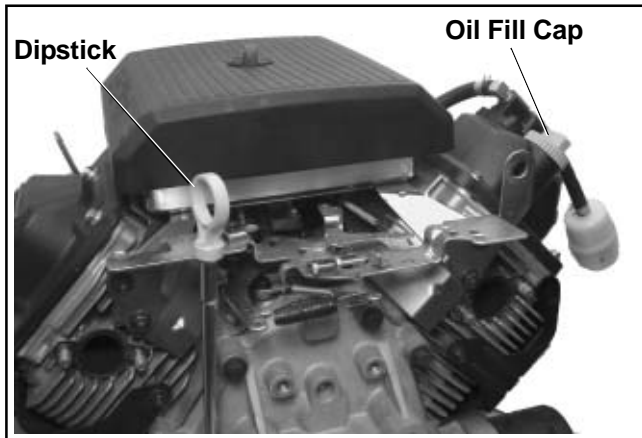

Figure 6-2. Location of Oil Fill Cap and Dipstick.
3. Remove the dipstick; wipe oil off. Reinsert the dipstick into the tube until fully seated. See Figure 6-2.